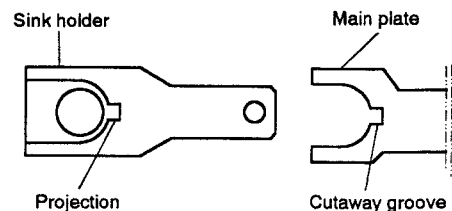

Fig. 3-1-5
- ③ Referring to Fig. 3-1-5, engage the projection of the sync holder of cassette housing with the cutaway groove in the main plate.
- ④ Secure the cassette housing with screws c and b.
- ⑤ Secure the leaf switch with screws a and b.